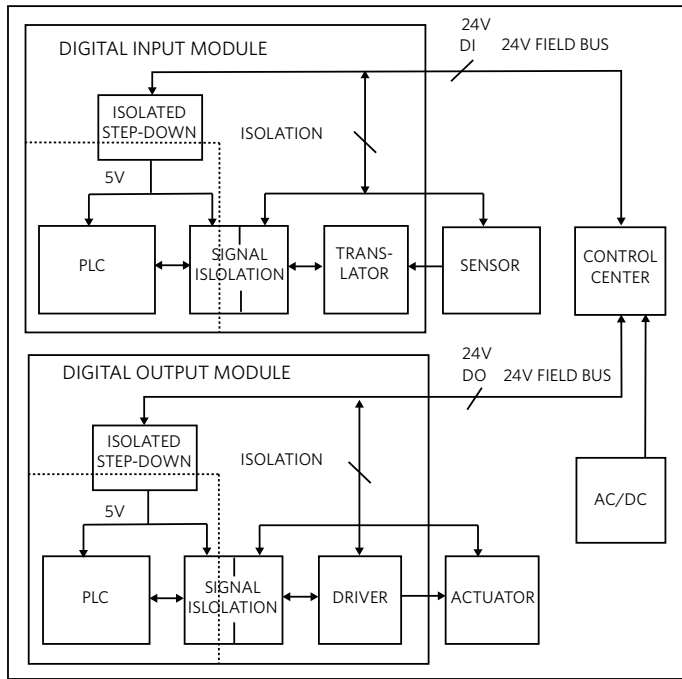

Figure 2. Digital I/O Module System Block Diagram
A single module can have up to 64 channels and a factory floor may utilize several modules. Figure 2 illustrates a generic digital I/O module system block diagram. A central hub takes the AC line power and converts it to 24V DC, delivered to the I/O modules together with the corresponding input (DI) and output (DO) data. The factory environment is harsh, with electric and magnetic interference and over-voltages, requiring protection for sensitive electronics. Each module's programmable logic controller (PLC) is powered via an isolated step-down voltage regulator. At the digital input module (DIM), a rugged, voltage-level translator interface powers the sensor, receives its information, and passes it along to the PLC via a digital isolator or optocoupler. A similar power, signal, and isolation chain on the digital output module (DOM) leads to the on-board driver, interfacing to the external actuator.